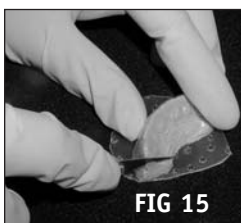

FIG 15
2. Cut the distal ends off using the *Essix Lab Knife #18800* (Fig. 15).